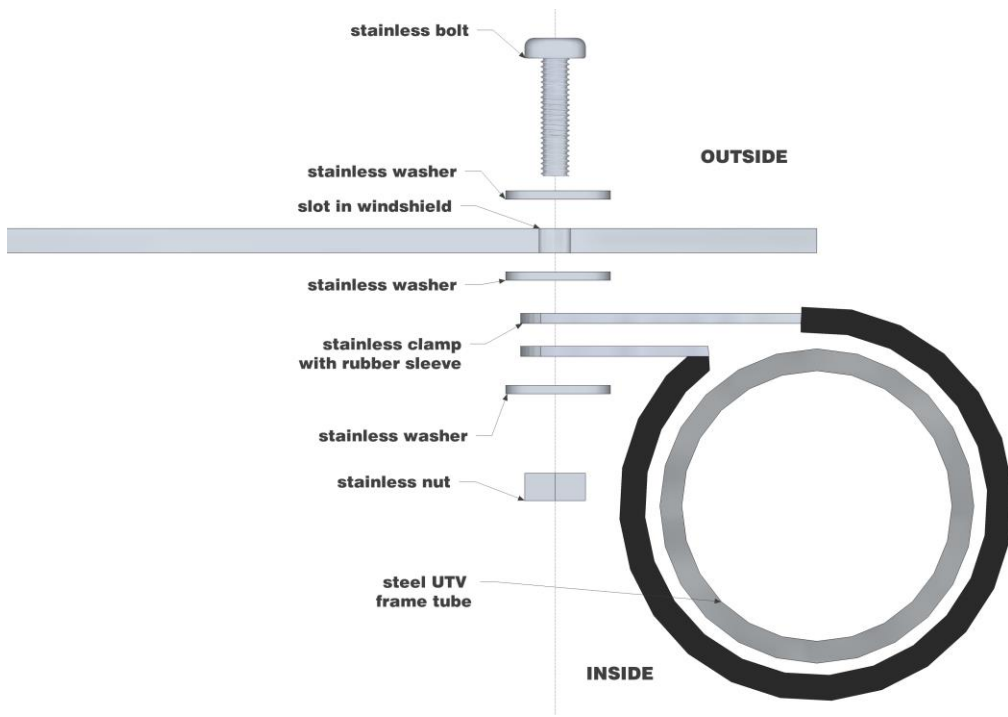

fig.2
4. Now you are ready to place the windshield on your vehicle. With help, place the windshield up on the hood. The rubber gasket should temporarily hold it up but be careful. The bent angle at the top of the windshield should go underneath the top bar of the roll cage. Near the top slot in the top windshield, take a 1-3/4" clamp and wrap it around the roll cage tube and then run a bolt with a washer through the slot in the windshield from the outside in (see fig. 2). Then place another washer on the bolt after the slot and run the bolt through the holes in the clamp tabs. Add another washer after that and screw on a locknut and tighten until just snug. You may need a Phillips screwdriver to hold the bolt while tightening the locknut. Repeat this step at all slot locations on the windshield.